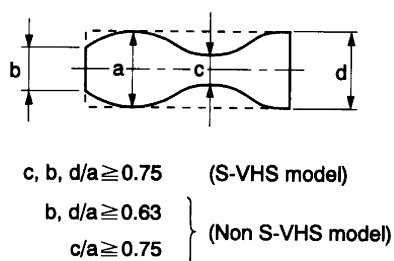

Fig. 2-1-79
- 3. Make sure the video envelope waveform (in its maximum output) meets the specification shown in Fig. 2-1-79. Again make sure the same by playing back the SP mode 2 MHz video signal on the alignment tape. If not satisfied, adjust as follows:
1. Make recordings and playback the tapes (E-180 and E-240) in SP and LP modes and make sure the playback output envelope meets the specifications shown in Fig. 2-1-79.